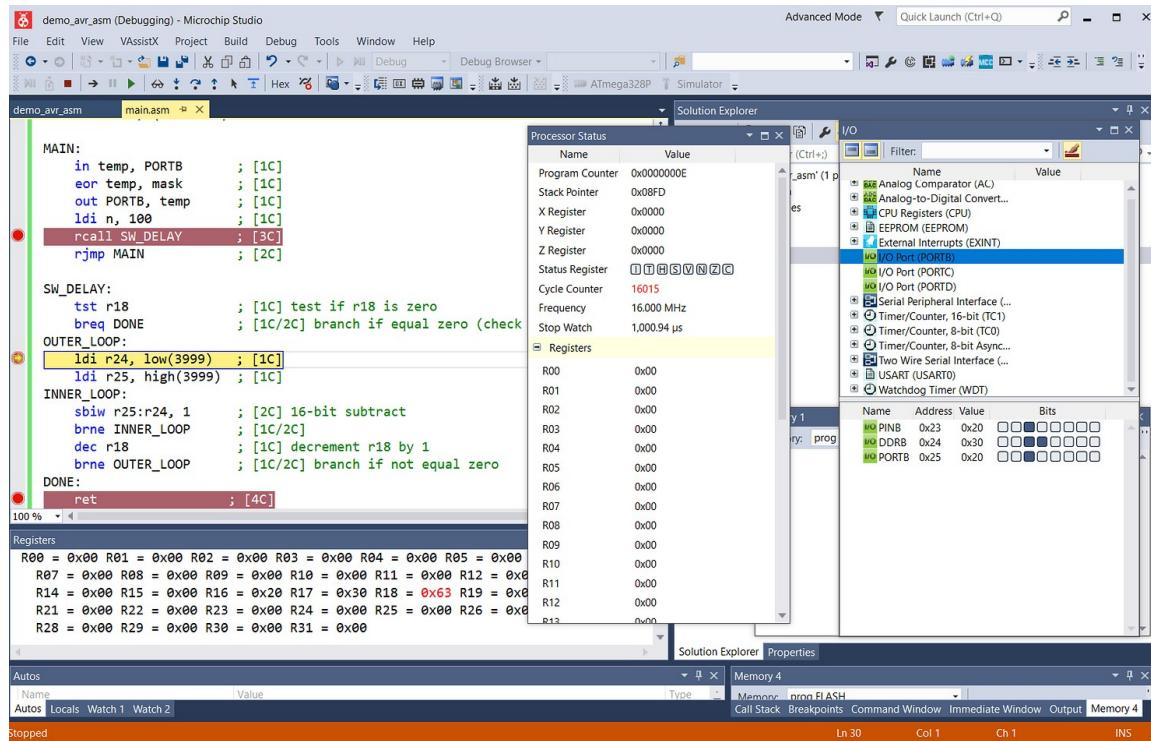

Figure 9: Code debugging using the built-in simulator
- Hint: Set a breakpoint at the **rcall SW_DELAY** instruction (see **Figure 9**), run the program until the breakpoint is reached, and record the CPU cycle count before and after the subroutine execution.